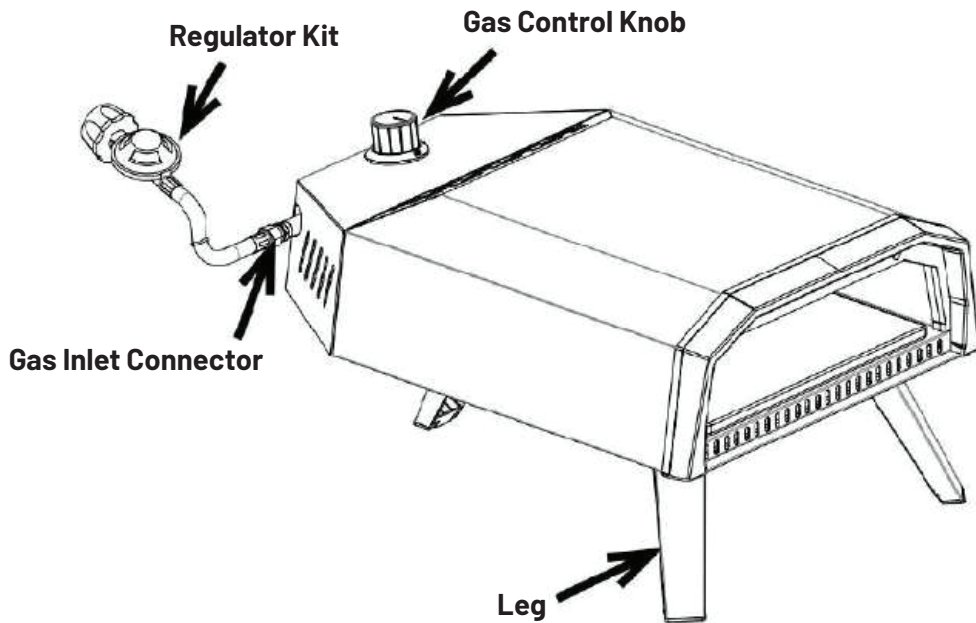
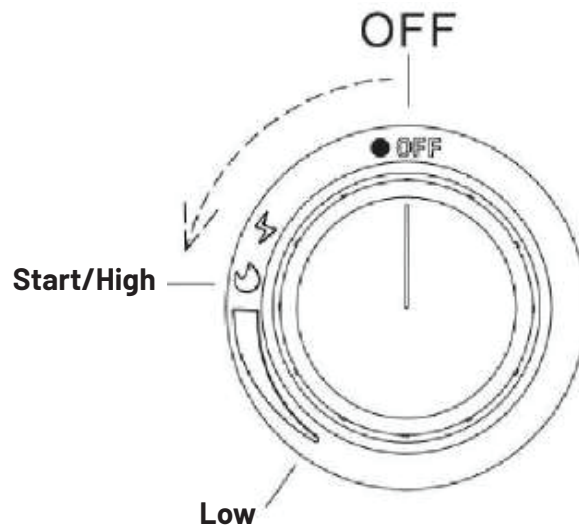

Figure 10
Figure 11
1. Turn the burner valve OFF (Figure 11).
- 1.** Refer to Figure 10 and ensure the gas control knob is in the OFF position (Figure 11). Then, turn the liquid propane cylinder valve ON.